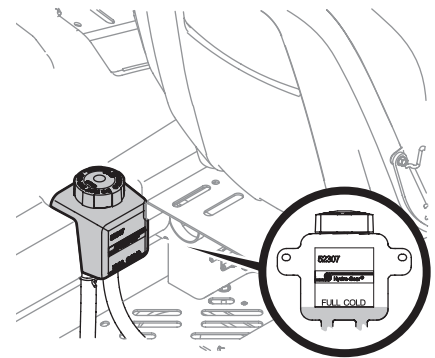

Figure 39
- Pivot the operator's seat forward and clean the reservoir cap and the area around the cap to prevent debris from contaminating the transmission oil. See Figure 39.
- Turn the reservoir cap counter-clockwise to remove, then check the oil level in the reservoir. Oil should be visible at the bottom of the cup, but the oil level must **NOT** be above the "FULL COLD" line. See Figure 39. **DO NOT FILL THE RESERVOIR.**